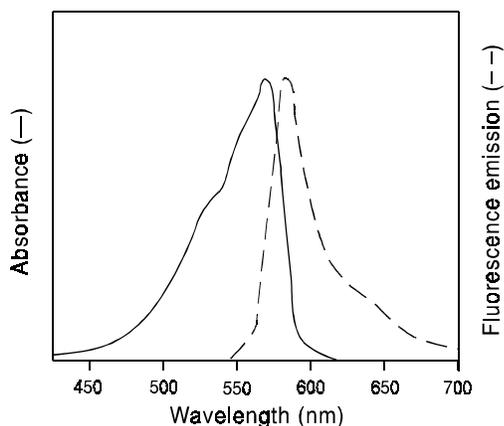

Figure 2. Normalized absorption and fluorescence emission spectra of resorufin, the product of the Amplex Red reagent.
In the *P_iPer* Phosphate Assay (Figure 1), maltose phosphorylase converts maltose (in the presence of *P_i*) to glucose 1-phosphate and glucose. Then, glucose oxidase converts the glucose to gluconolactone and H_2O_2 . Finally, with horseradish peroxidase (HRP) as a catalyst, the H_2O_2 reacts with the Amplex® Red reagent (10-acetyl-3,7-dihydroxyphenoxazine) to generate resorufin, which has absorption and fluorescent emission maxima of approximately 563 nm and 587 nm, respectively (Figure 2).^{1,2} The resulting increase in fluorescence or absorption is proportional to the amount of *P_i* in the sample. By fluorescence, the kit can be used to detect as little as 800 nM *P_i* (Figure 3).
2.8 Resorufin, the Amplex Red reagent reaction product, can be detected either fluorometrically or spectrophotometrically. For fluorescence detection, use a fluorescence microplate reader set for excitation in the range of 530–560 nm and emission detection at ~ 590 nm (see Figure 2). For absorbance detection, use a microplate reader set for absorbance at ~ 565 nm.
3.8 Resorufin, the Amplex Red reagent reaction product, can be detected either fluorometrically or spectrophotometrically. For fluorescence detection, use a fluorescence microplate reader set for excitation in the range of 530–560 nm and emission detection at ~ 590 nm (see Figure 2). For absorbance detection, use a microplate reader set for absorbance at ~ 565 nm.
5.8 Resorufin, the Amplex Red reagent reaction product, can be detected either fluorometrically or spectrophotometrically. For fluorescence detection, use a fluorescence microplate reader set for excitation in the range of 530–560 nm and emission detection at ~590 nm (see Figure 2). For absorbance detection, use a microplate reader set for absorbance at ~565 nm.